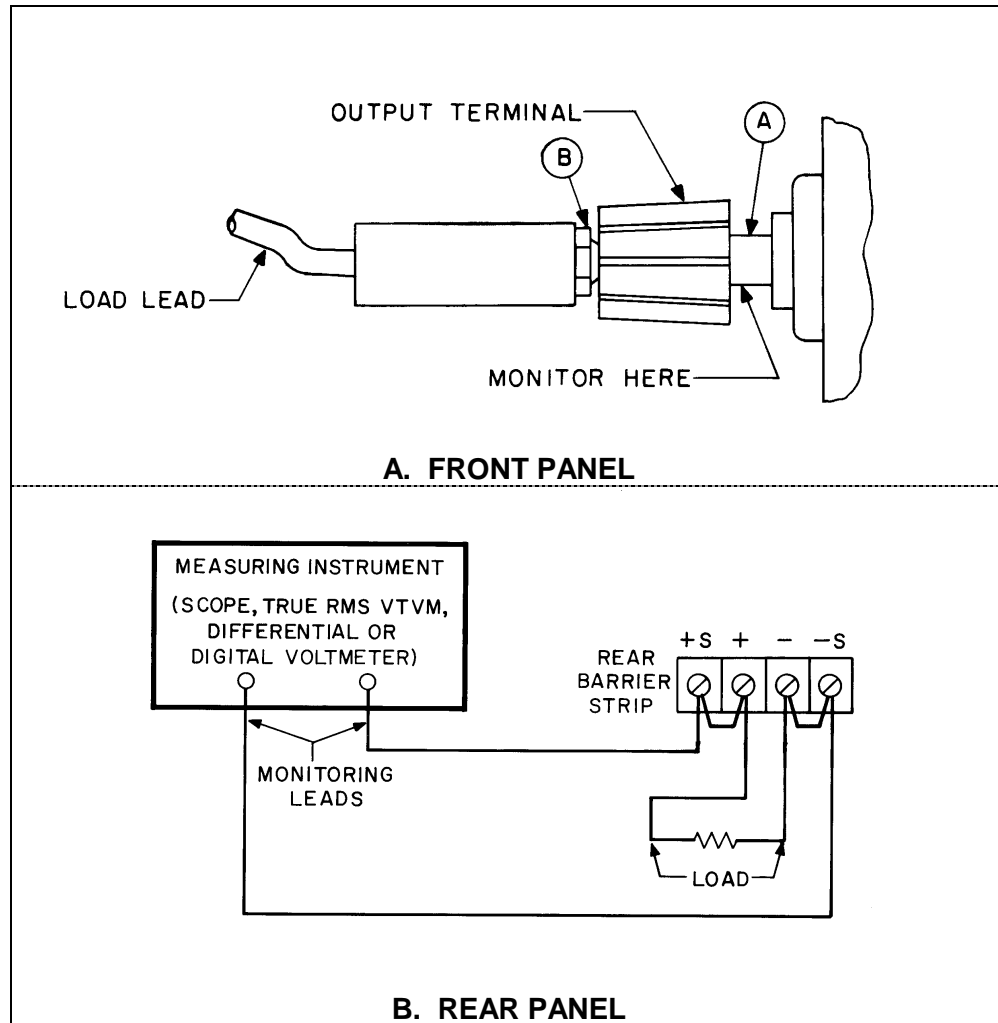

Figure 71. Proper Connections for Monitoring and Load Leads
Casual clip lead connections will inevitably result in serious measurement errors--in most cases exceeding the power supply's specifications even though the power supply is operating perfectly. The load and monitoring leads must be connected to the power supply terminals exactly as shown in Figures 71A and B. If performance measurements are made at the front terminals (Figure 71A) the load should be plugged into the front of the terminal at (B) while the monitoring device is connected to a small lead or bus wire inserted through the hole in the neck of the binding post at (A). If performance is being measured at the rear barrier strip (Figure 71 B), the measuring instrument should be connected to the plus and minus sensing terminals; in this way the monitoring device sees the same performance as the feedback amplifier within the power supply.
Failure to connect the monitoring instrument to the proper points shown in Figure 71 will result in the measurement not of the power supply characteristics, but of the power supply plus the resistance of the leads between its output terminals and the point of connection. Even using clip leads to connect the load to the power supply terminals and the monitoring instrument to the load leads can result in a serious measurement error. Remember that the power supply being measured probably has an output impedance of less than 1 milliohm, and the contact resistance between clip leads and power supply terminals will in most cases be considerably greater than the specified output impedance of the power supply.
All measurement instruments (oscilloscope, ac voltmeter, differential or digital voltmeter) must be connected directly by separate pairs of leads to the monitoring points indicated in Figure 71. This is necessary to avoid the subtle mutual coupling effects that may occur between measuring instruments unless all are returned to the low impedance terminals of the power supply. Twisted pairs or shielded cable should be used to avoid pickup on the measuring leads.